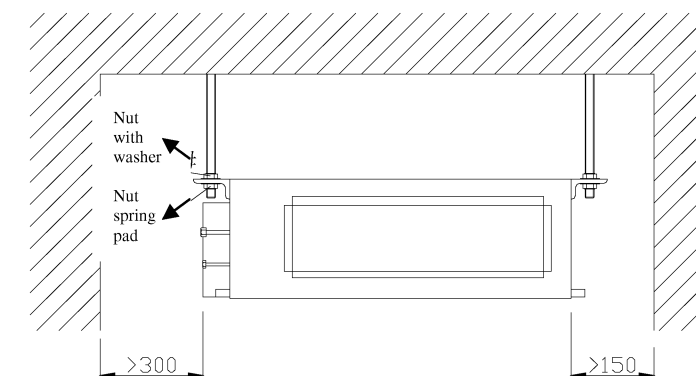

Fig.14
4. Ensure the install distance of the indoor unit as shown in fig.14, ensure the necessary space for care and maintainance.